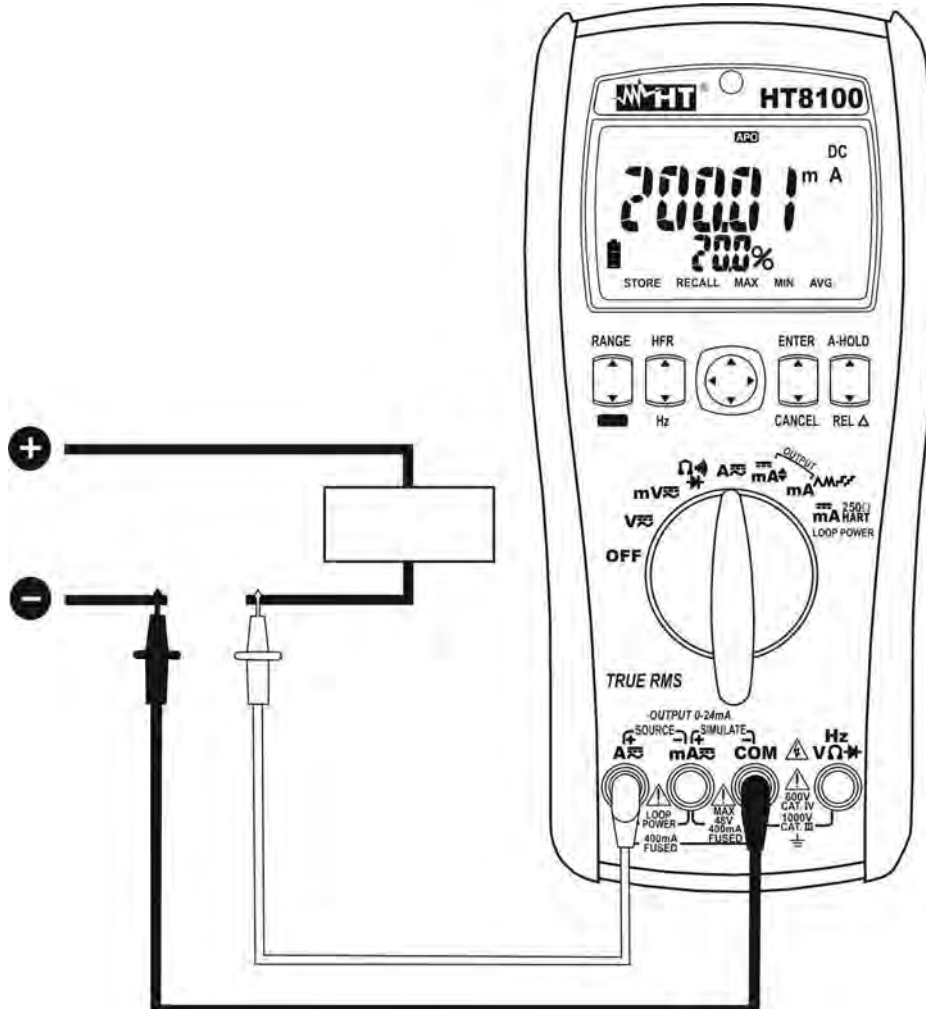

Fig. 4: Use of the instrument for DC current measurement
5. Connect the red lead and the black lead in series to the circuit whose current you want to measure, respecting polarity and current direction (see Fig. 4)
8. When symbol "-" appears on the instrument's display, it means that current has the opposite direction with respect to the connection in Fig. 4